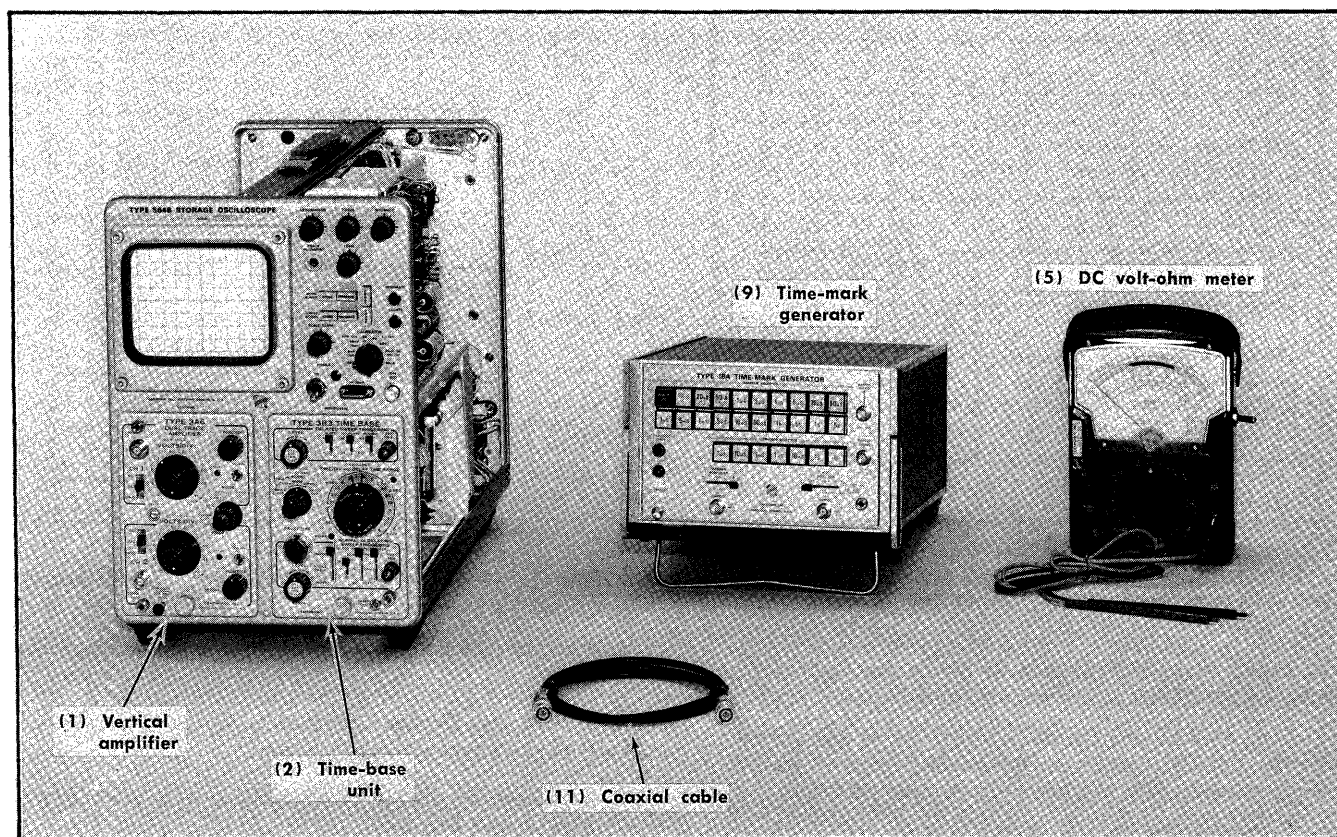

Fig. 5-21. Test equipment required for steps 23 and 32.
a. Test equipment required for steps 23 through 32 is shown in Fig. 5-21. The illustrated equipment is keyed to that listed under Test Equipment Required.